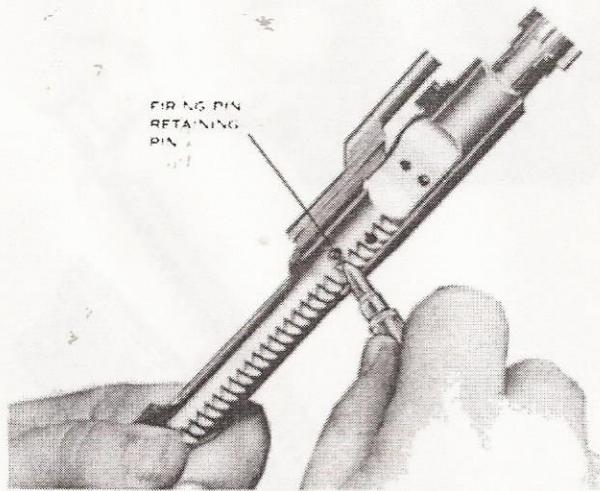

Figure 15. Pressing out firing pin retaining pin.
f. To disassemble the bolt carrier group, press out the firing pin retaining pin by using the nose of a cartridge (fig 15). Elevate the front of the bolt carrier and allow the firing pin to drop from its well in the bolt (fig 16). Rotate the bolt until the cam pin is clear of the bolt carrier key and remove the cam pin by rotating it 90 degrees ($\frac{1}{4}$ -turn) and lifting it out of the well in the bolt and bolt carrier (fig 17). After the cam pin is removed, the bolt can be removed easily from its recess in the bolt carrier (1, fig 18). Remove the extractor by first pushing the extractor pin out with the firing pin (or a pointed object) while maintaining pressure on the extractor with the index finger (2, fig 18). Release the pressure from the extractor and remove. The extractor should be
③